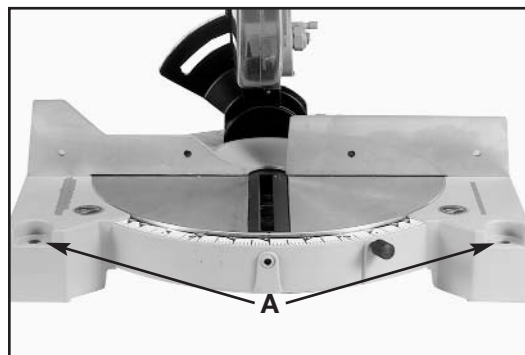

Fig. 11
**⚠ CAUTION** Before operating your compound miter saw, firmly mount it to a sturdy work bench or other supporting surface. Four holes are provided, two of which are shown at (A) Fig. 11 for fastening the saw to a supporting surface.